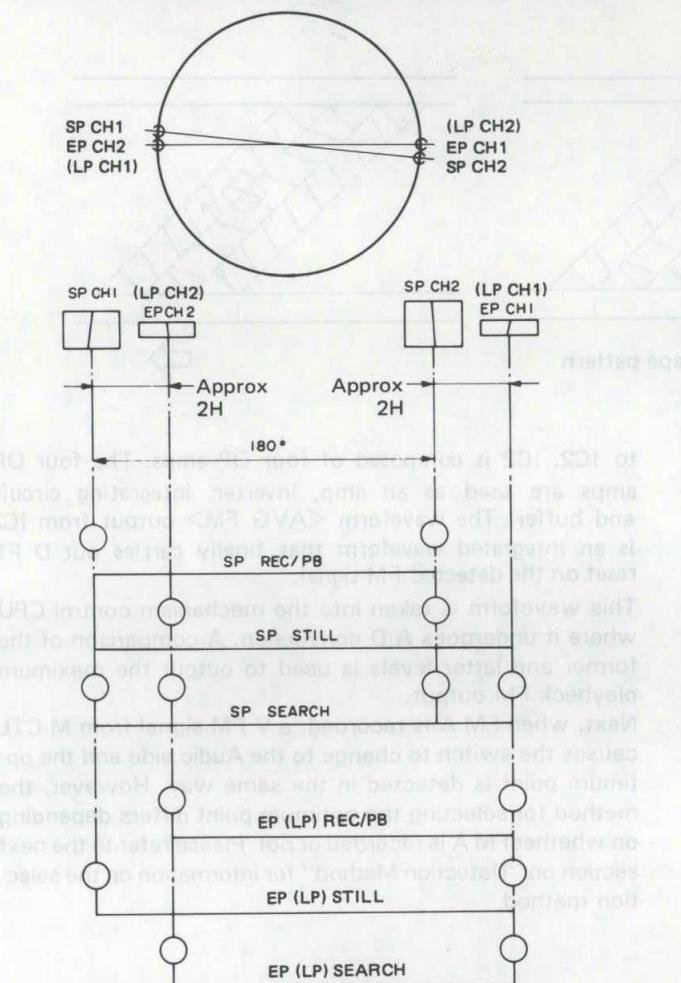

Fig. 4-2-17 DA4 head
The video heads are mounted on the upper drum as illustrated in Fig. 4-2-17. The SP CH-1 and EP (LP) CH-2 heads are separated by only 2 H with respect to the tape, while the SP CH-2 and EP (LP) CH-1 heads are similarly located in opposite positions at an angle of 180°.